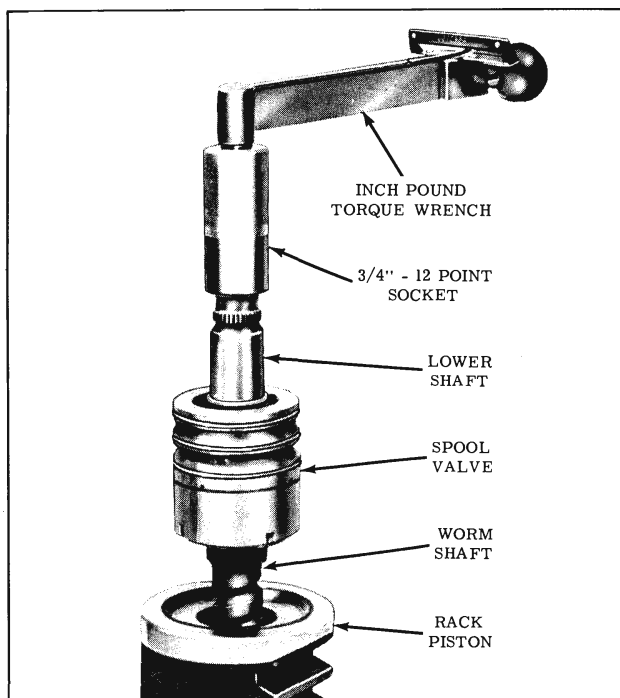

Fig. 4-268 Checking Preload
- d. Using a torque wrench and a 3/4", 12 point socket, check the preload while rotating the torque wrench in a 120° arc. The reading should be 1/2 to 3 in. lbs. (Fig. 4-268)